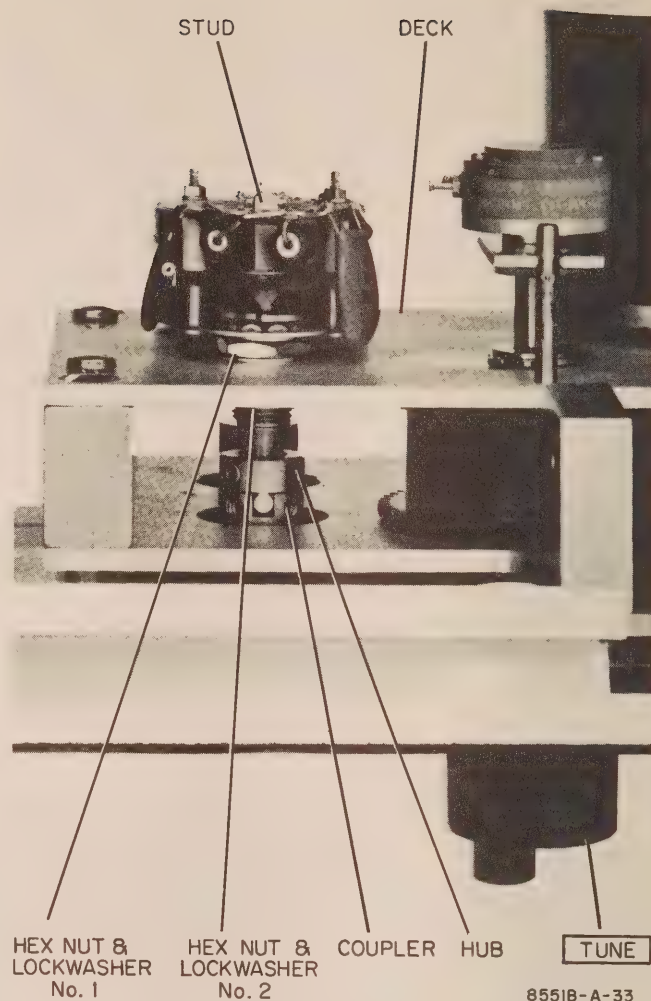

Figure 5-31. Portion of Rear of Front Panel, Frequency Scale Drum Removed to Show Mounting of Gain-Compensating Switch S4
e. Figure 5-31 shows Switch S4 in its mounting. Referring to Figure 5-31:
- (1) Loosen Hex Nut No. 2 with 1/2-inch open-end wrench.
- (2) The hub is secured to the switch shaft with two 6-32 x 1/8 Allen setscrews. With Hex Nut No. 2 loosened, Switch S4 can be rotated to expose each Allen screw; loosen the Allen screws.
- (3) When removing Switch S4:
- (4) Transfer Hex Nut No. 1 and Lockwasher No. 1 from the old switch to replacement Switch S4.